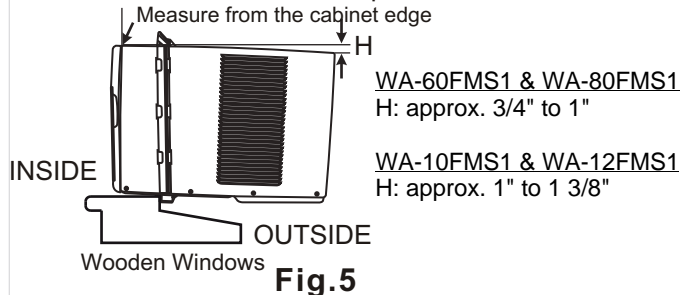

Fig.5
- A. With a firm grip on the air conditioner, carefully place the unit into the window opening. The bottom of the air conditioner frame should sit against the window sill (Fig.5). Carefully bring the window down behind the top rail.
NOTE: Check that air conditioner is tilted back within the indicated "H" measurement (Fig.5), approximately 3° to 4° downwards to the outside. With proper installation, condensate will drain from the drain hole during normal use.